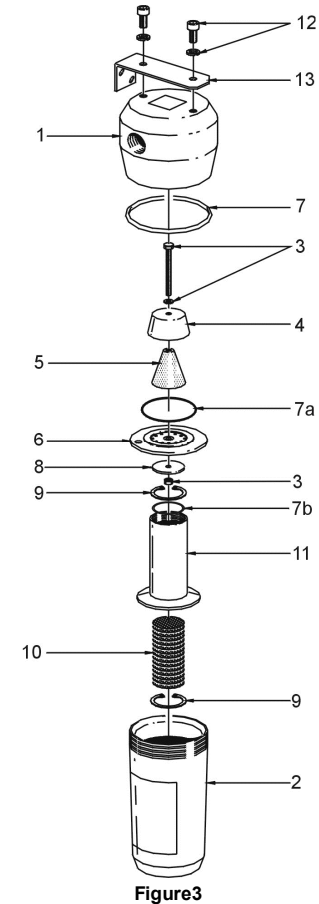

Figure3
4. Unscrew the coalescing tube and disassemble all components by removing the M5 Screw Assembly (3) See figure 3.